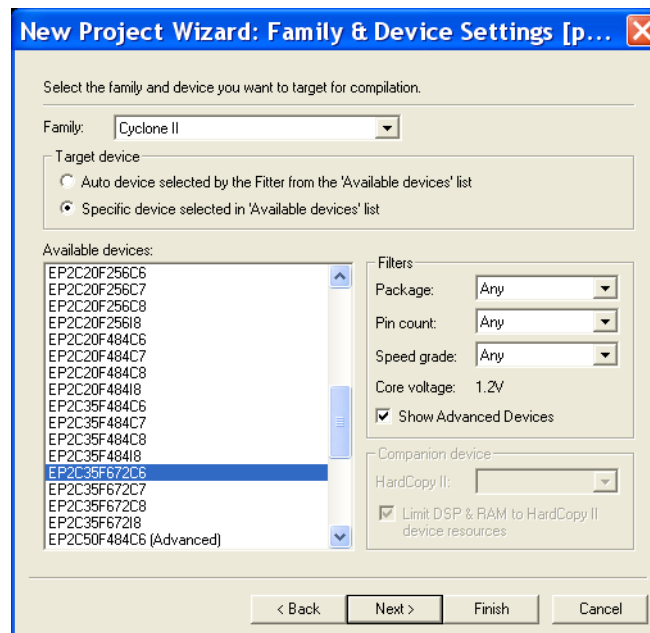

Figure 8. Choose the device family and a specific device.
3. The wizard makes it easy to specify which existing files (if any) should be included in the project. Assuming that we do not have any existing files, click **Next**, which leads to the window in Figure 8.